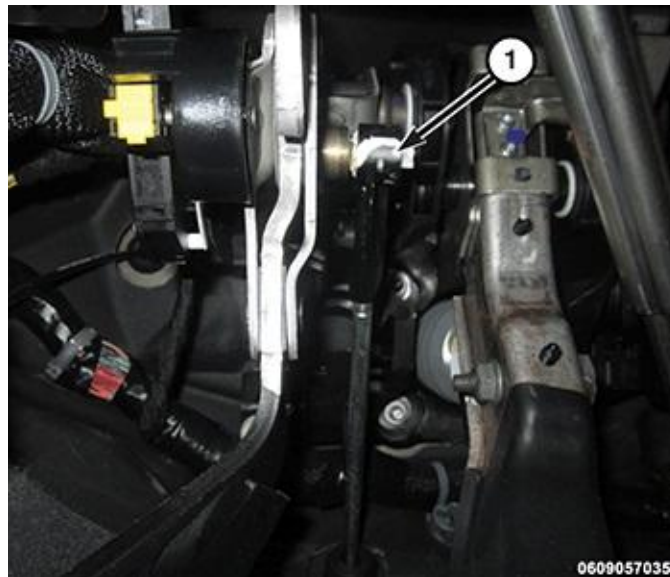

Fig. 1 Clutch Master Cylinder Rod
14. Connect the hydraulic clutch master cylinder rod (1) to the clutch pedal assembly (Fig. 1).